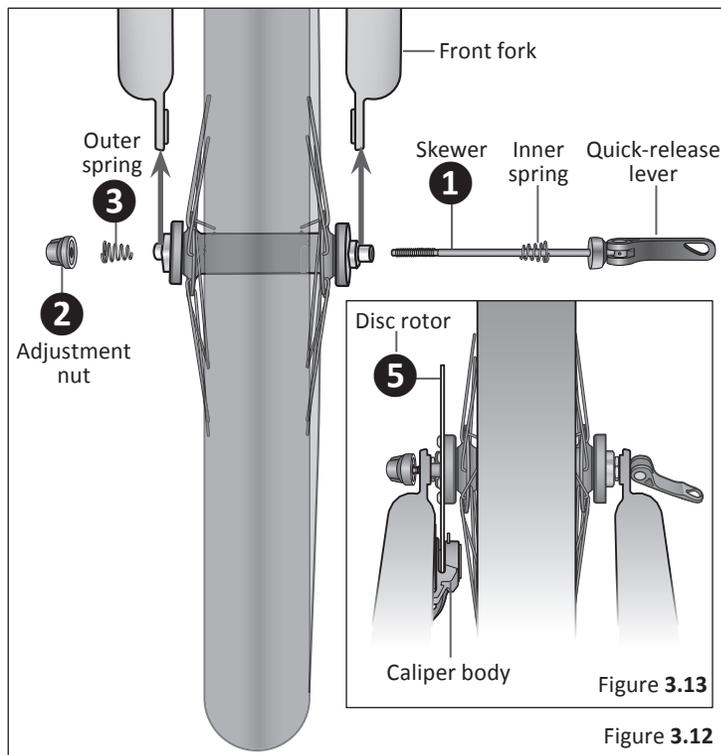

Figure 3.12
- 1** Locate the **skewer** from the small parts carton of your bicycle. Figure 3.12